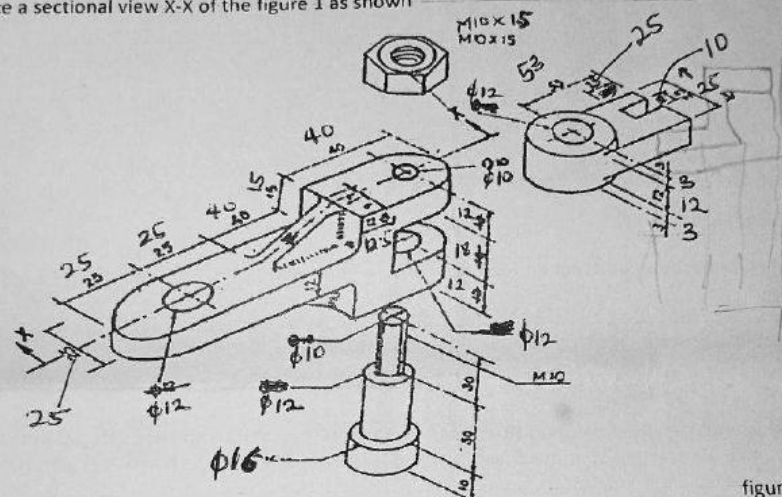

figure 1
- (a) Produce an assembly drawing of the four components as shown in figure 1.
- (b) Produce a sectional view X-X of the figure 1 as shown